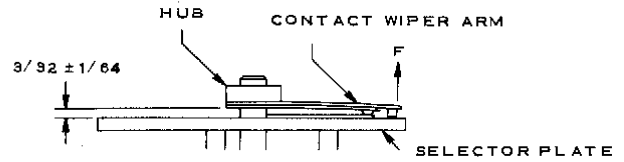

Figure 24. Wiper Arm Lateral Adjustment.
3. Inner blade of the wiper arm is set so that it is approximately  $3/32$ " from the surface of the selector plate as shown in *Figure 24*. Force "F" of outer contact must be from  $1\frac{3}{4}$  to  $2\frac{3}{4}$  ounces.